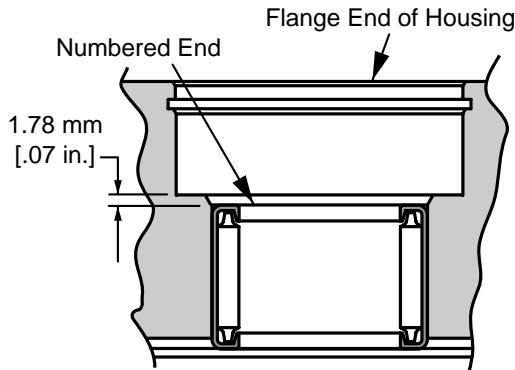

Figure 1-4
- Check the bearing (press fit) in housing. If needles remain in cage, move freely, and setting at the dimension shown in figure 1-4, removal not required.
2 If necessary, Press new bearing in housing to dimension shown in figure 1-4 with the numbered end of bearing outward.